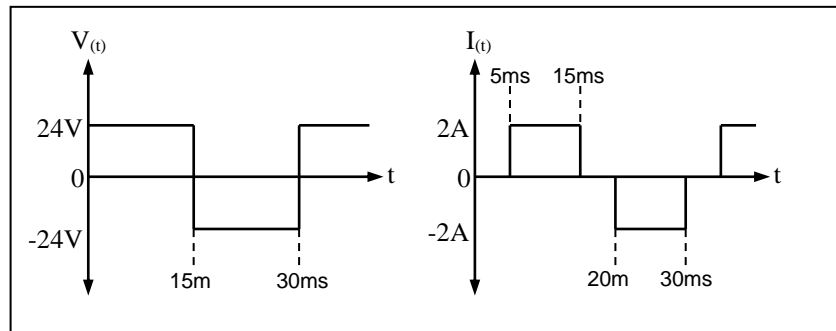

Figure 1
1.1 For the given voltage and current waveforms across a device shown below in figure 1, determine: